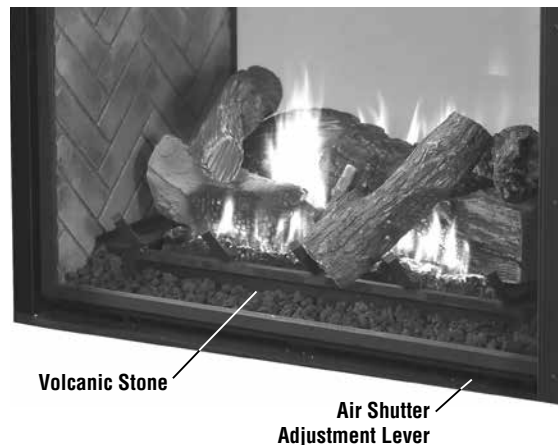

Figure 41 - Burner Flame Appearance (Control Side)
2. Allow the burner to operate for at least 30 minutes while continuously observing the flame to ensure that the proper flame appearance has been achieved (see **Figures 41 and 42**).
3. Adjust the air shutter using the lever on the lower right side of the firebox (**Figure 41**).
NOTE: See **Figures 41 and 42** for proper burner flame appearance.